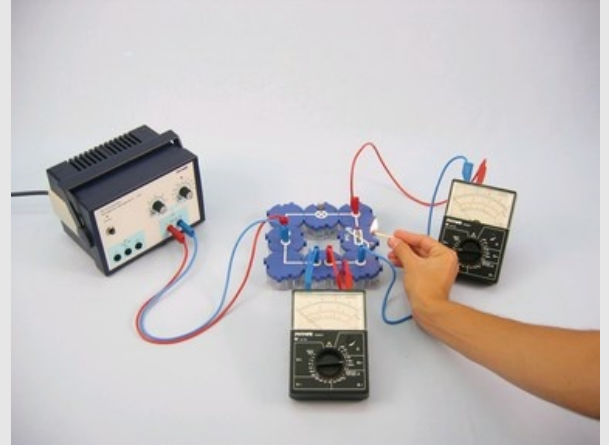

Fig. 5
- Heat the PTC resistor with a match flame as in Fig. 5.